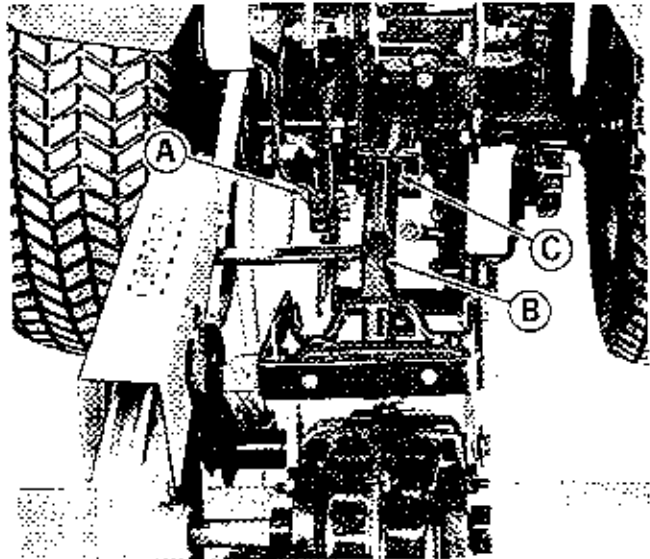

Figure 2. Tiller positioned behind the tractor.
2. See figure 2. Use a pin (A) and spring clip to hold the idler assembly to the tractor frame.
4. See figure 2. After insuring the tractor lift is completely lowered, position the rotary tiller behind the tractor as shown and slide rod (B) into tube (C).
6. See figure 2. Pull rod (B) out of tube (C) to disconnect the tiller from the tractor. Remove the pin and spring clip at (A).